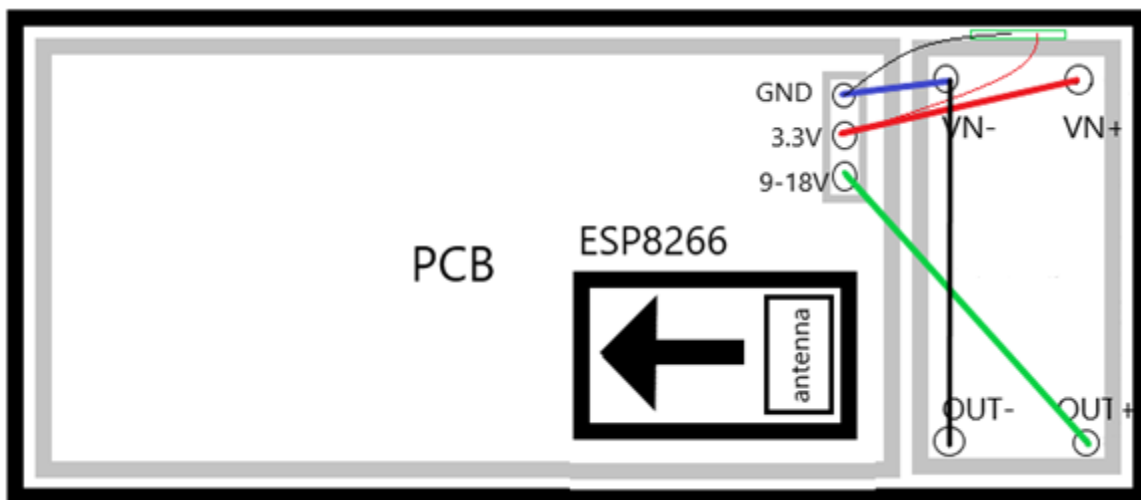
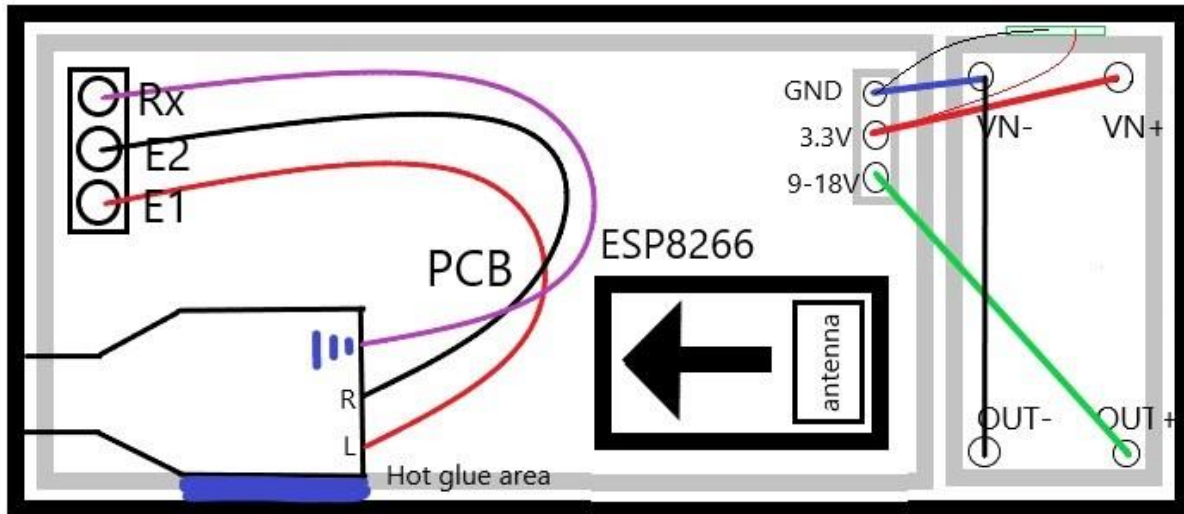

Figure 12: ESP8266 Orientation
Figure 13: Wiring diagram
19. Align the female jack port to the circled hole (as drawn in Figure 12). Hot glue the wall of the adapter to the housing case wall (illustrated in Figure 13)